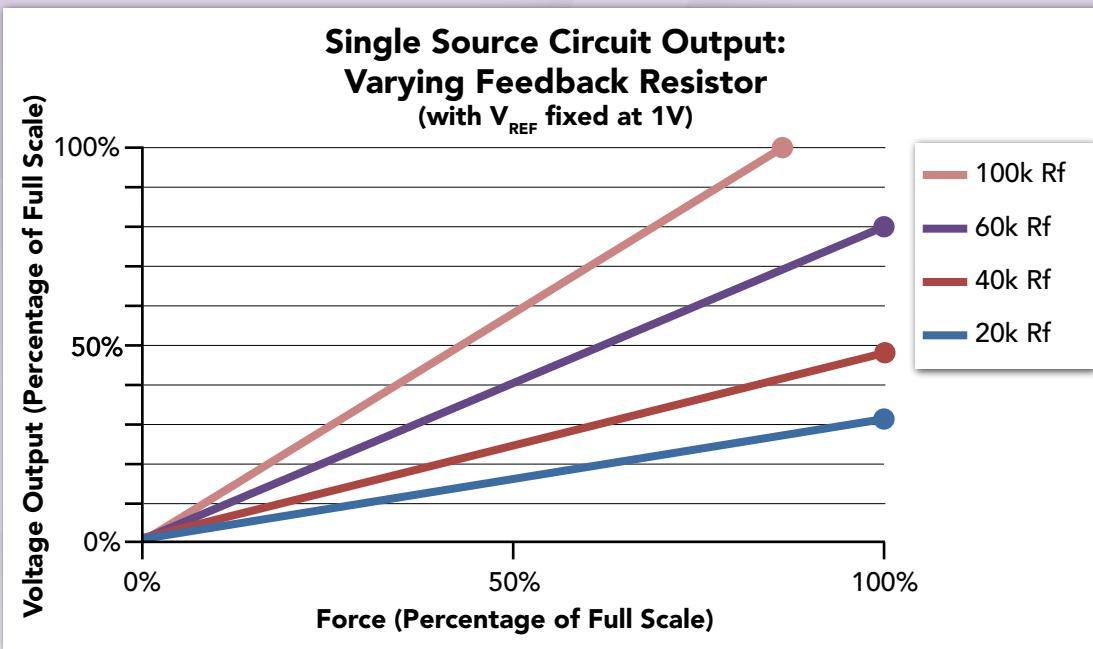
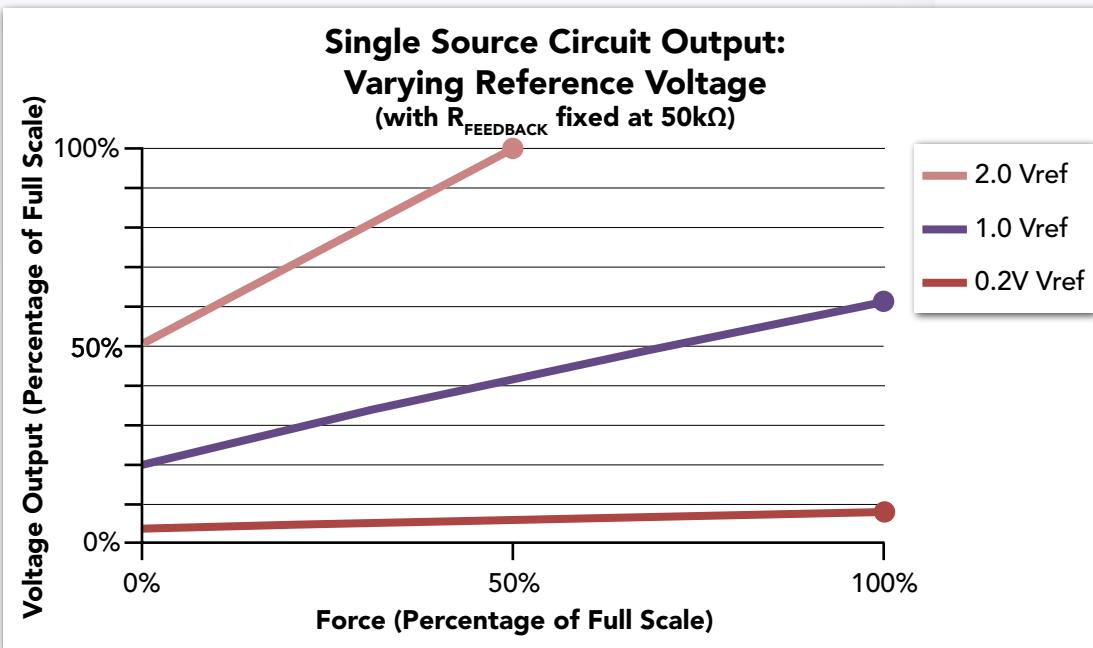

FIGURE 15
FIGURE 16
**Fig. 15** above shows the relationship of the output voltage versus the force applied to the sensor with the sensor drive voltage,  $V_{REF}$ , fixed at 1 volt. By inspection of this graph it is seen that decreasing  $R_f$  will decrease the sensitivity of the circuit output for a given force (extended force range). Conversely, a larger  $R_f$  value will increase the slope of the voltage output versus force curve and therefore increase the sensitivity of the circuit (decreased force range). **Fig. 16** shows the  $V_{OUT}$  versus Force relationship with a varying drive voltage,  $V_{REF}$  and fixed  $R_f$  resistance value of  $50\text{k}\Omega$ . Similarly to the effects of varying the feedback resistor value, an increase drive voltage will result in higher sensitivity (decreased force range) and a decreased voltage will result in lower sensitivity (extended force range).